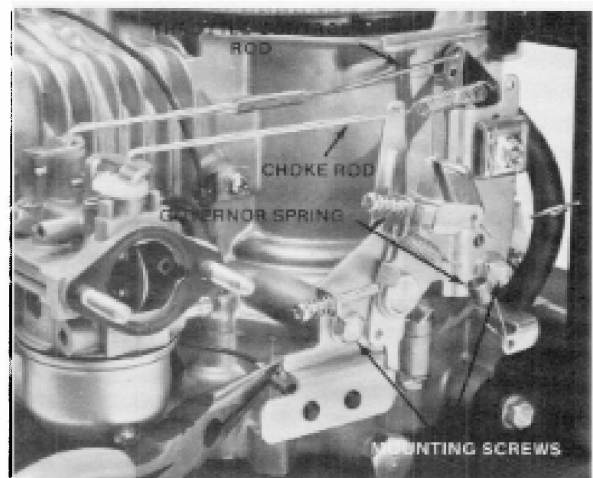

Figure 4-59
1. Mount the throttle control assembly to the engine block with two screws. See Fig. 4-59.
3. Connect the throttle control rod, choke rod and governor spring as shown in Fig. 4-59.